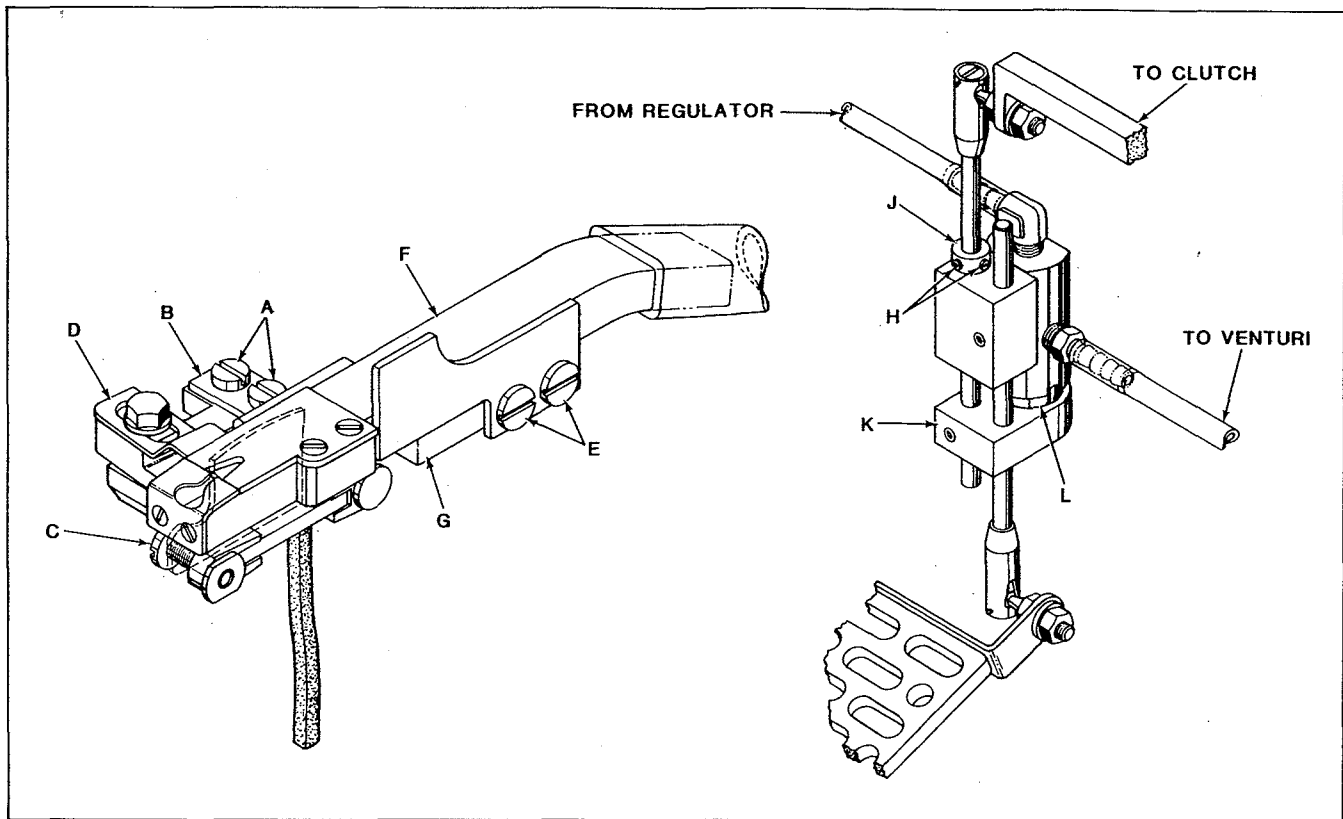
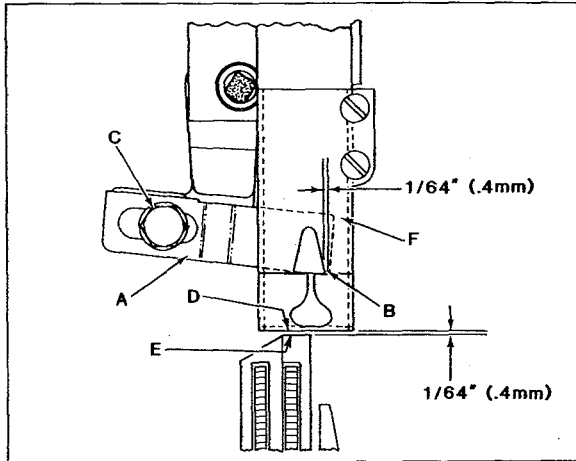

Fig. 26
Fig. 26A
2. Remove "AIR-KLIPP" assembly from the machine by removing screws (A, Fig. 26), washer plate (B) and screw (C).
When the movable knife (A, Fig. 26A) travels from extreme left to the right; its cutting edge must be even with the cutting edge of stationary knife-Ref. Point B.
3. Re-assemble "AIR-KLIPP" assembly to the machine, securing knife driving link with screw (C, Fig. 26) and base with washer plate (B) and screws (A).
With "AIR-KLIPP" assembly in position, temporarily replace throat plate and check for a 1/64 inch (.4mm) clearance between front edge of air tube (D, Fig. 26A) and rear edge of throat plate (E), as shown. If a clearance adjustment is necessary, loosen screws (E, Fig. 26) and adjust the air tube (F) front to back on "AIR-KLIPP" base as required. Re-adjust movable knife pressure as outlined in STEP 2, then tighten screws (E).
With main stitch length set and movable knife (A, Fig. 26A) positioned to its extreme right; loosen screw (C) and adjust movable knife left to right as required to extend no less than 1/64 inch, (.4mm) beyond the cutting edge of stationary knife as in Fig. 26A. Clearance must be maintained between the moving knife and the inner wall of air tube - Ref. Point F. Hold knife in position and tighten screw (C).
- To adjust the air valve system, loosen screws (H, Fig. 26) and set collar (J) to permit actuator block (K) to just contact button of air valve - Ref. Point L, when button is fully extended, then tighten screws (H). When treadle is pressed to start sewing, the air valve must open before the clutch is engaged.